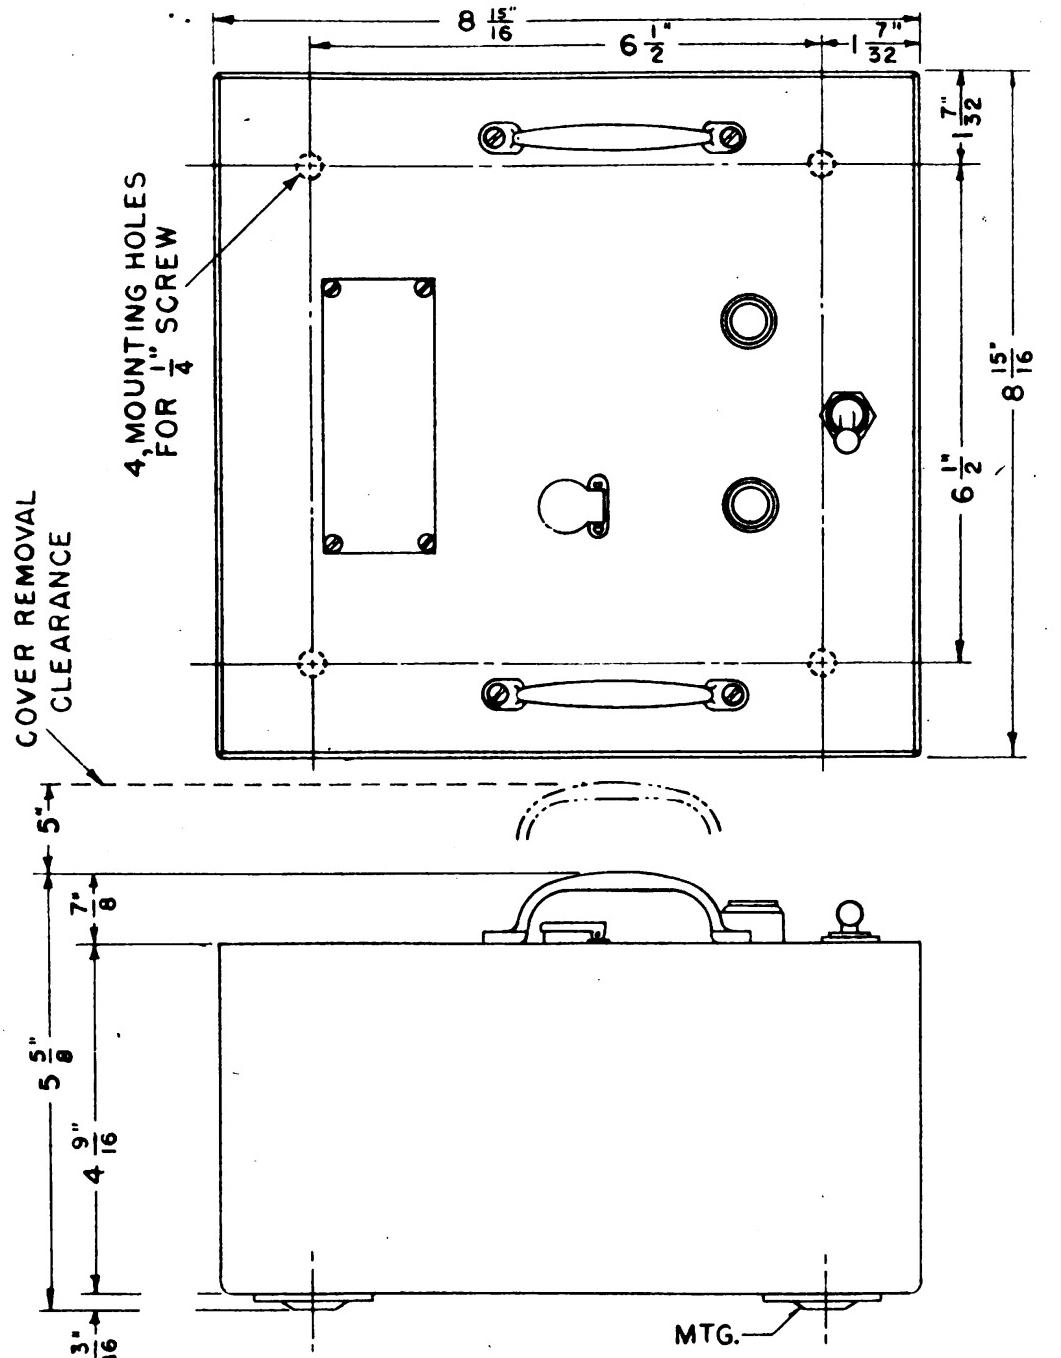

FIGURE 1—Interphone amplifier BC-367.
a. *Interphone amplifier BC-367* (figure 1).—This unit consists of a panel and tube chassis assembly fitting into a sheet steel box. The entire unit can be removed from the box as electrical connections are made by the use of plugs and jacks. Two guide angles on the sides of the box and